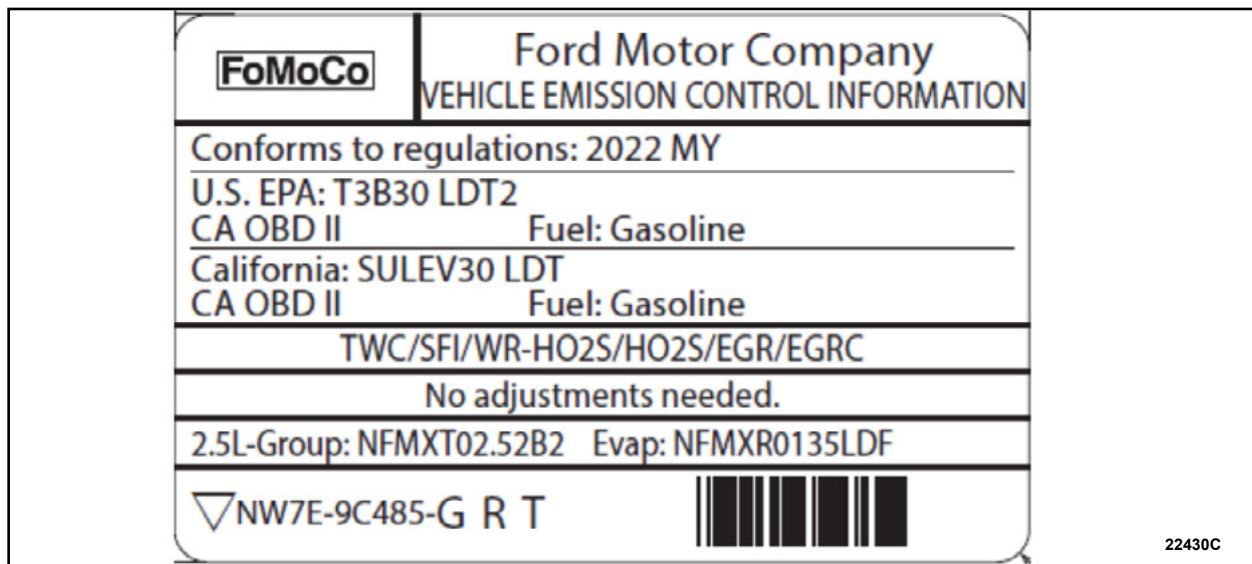

FIGURE 4
9. Apply the *new* VECI label directly over the original label. See Figure 4.